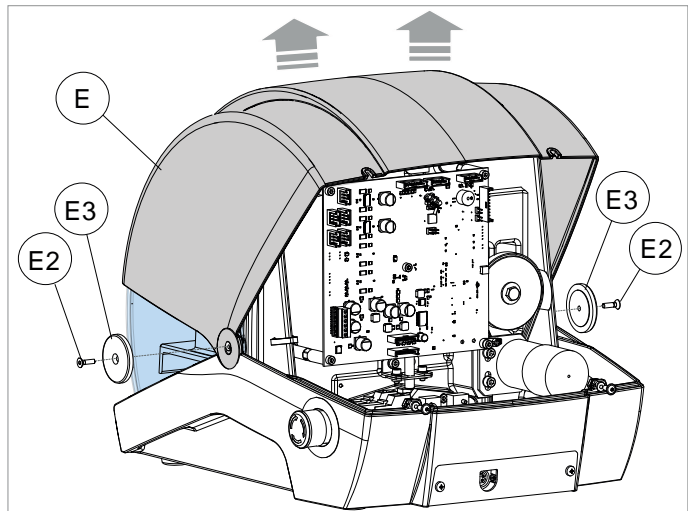

Fig. 49
- 4) Remove the screws (E2) and washers (E3) (Fig. 49).
- 5) Remove the top cover (E) .
- 8) Secure the cover (E) with the screws (E2) and washers (E3).